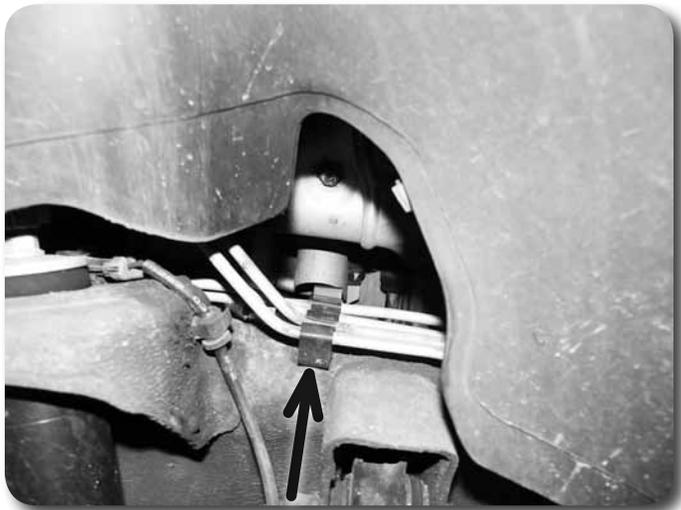

Figure 11
15. Locate the brake lines on the driver's side frame rail at the front driver's side wheel well. Remove the brake lines from the retaining clip **Figure 11**. Check for any other lines, hoses or wires in this area that may not have enough slack to compensate for 3" of lift. Mark these lines, hoses or wires and disconnect.